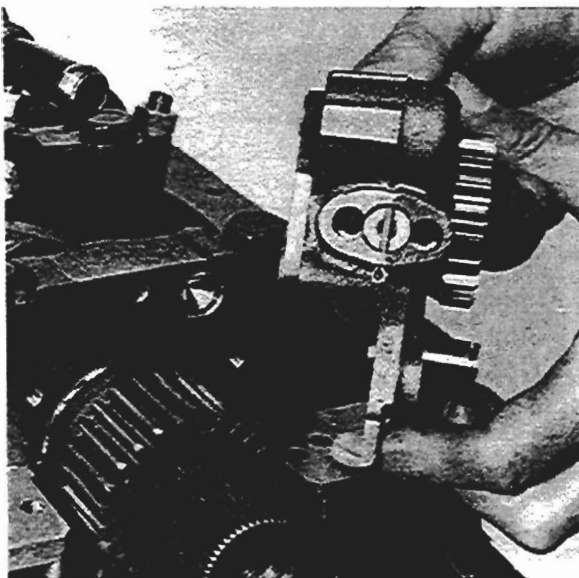

Fig. M7
5. Remove the three setscrews which fasten lubricating oil pump to front main bearing cap and remove the pump (see fig. M7).